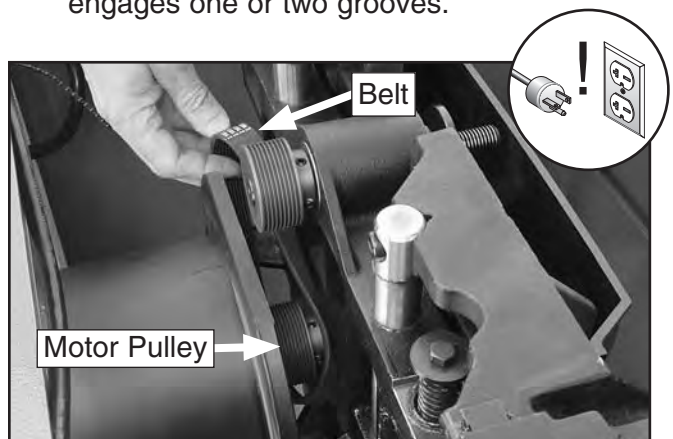

Figure 145. Installing belt (table removed for clarity.)
8. Turn the belt sideways and slip it over the motor pulley, as shown in **Figure 145**, so it engages one or two grooves.